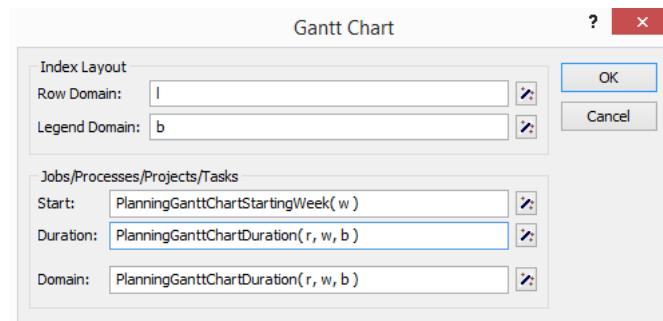

Figure 12.19: The **Gantt Chart** dialog box for the maintenance planning Gantt chart
- ▶ use the **Wizard** buttons to complete the **Gantt Chart** dialog box as shown in Figure 12.19.